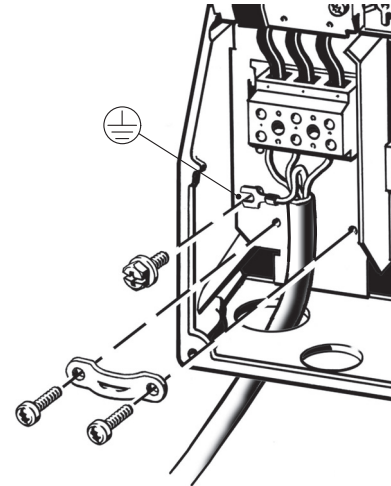

**Fig. 22** Motor connection, A4 and A5
1. Connect the earth conductor to terminal 99 (PE). See fig. 22.
2. Connect the motor conductors to terminals 96 (U), 97 (V), 98 (W) of the motor plug.